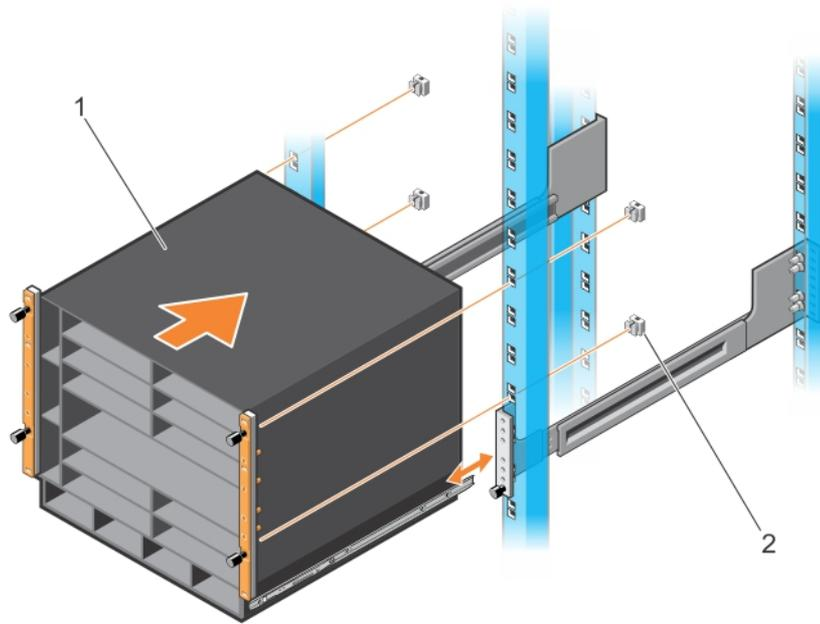

Figure 14. Installing the Chassis with ReadyRails in a Non-Threaded-Hole Rack
Install two cage nuts (item 2 in Figure 14) in each front post at the desired height of the two thumb screws on each flange. Lift the chassis and slide it into the rails installed in the rack. Tighten the thumb screws in the cage nuts to secure the chassis to the rack.